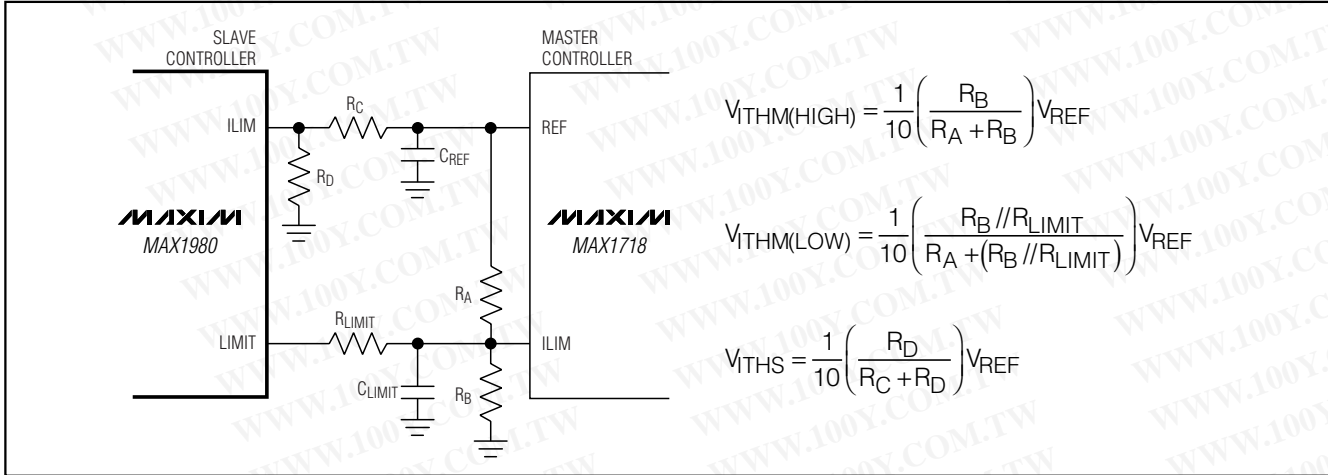

Figure 5. Setting the Adjustable Current Limits
where V_{ITHM} , the master's current-limit threshold, is typically 1/10th the voltage seen at the master's ILIM input ($V_{ITHM} = 0.1 \times V_{LIM(MASTER)}$, see the master controller's data sheet). Connect a resistive voltage-divider from the master controller's internal reference to GND, with the master's ILIM input connected to the center tap (Figure 5). Use 1% tolerance resistors in the divider with 10 μ A to 20 μ A DC bias current to prevent significant errors due to the ILIM pin's input current:
where V_{ITHS} , the slave's current-limit threshold, is precisely one-tenth the voltage seen at the slave's ILIM input ($V_{ITHS} = 0.1 \times V_{LIM(SLAVE)}$). Connect a second resistive voltage-divider from the master controller's internal reference to GND, with the slave's ILIM input connected to the center tap (Figure 5). The external adjustment range of 400mV to 1.5V corresponds to a current-limit threshold of 40mV to 150mV. Use 1% tolerance resistors in the divider with 10 μ A to 20 μ A DC bias current to prevent significant errors due to the ILIM pin's input current. Reducing the current-limit threshold
Now select the resistive-divider values (R_A and R_B in Figure 5) to set the appropriate voltage at the master's ILIM input:
Select the resistive-divider values (R_C and R_D in Figure 5) to set the appropriate voltage at the slave's ILIM input:
- 4) Determine R_{LIMIT} (Figure 5) from the above equation: